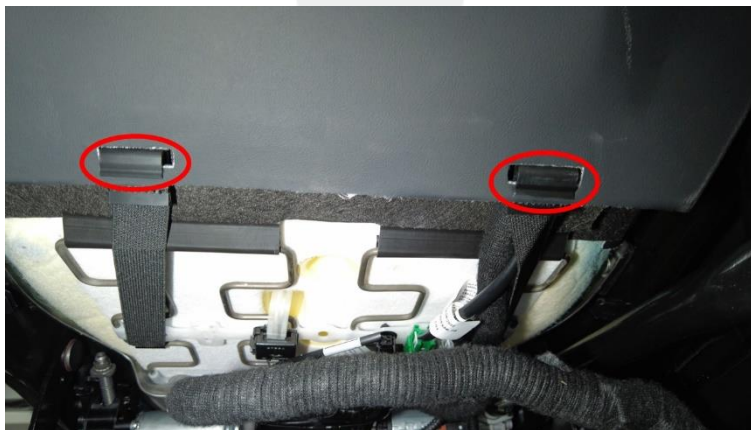

Figure 1
3. Remove the strap clips (x2) from the left front seat back shell assembly (Figure 1).